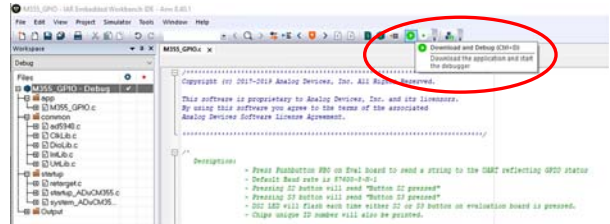

Figure 12. Launching the Debugger
3. To run the firmware on the ADuCM355, ensure that the EVAL-ADuCM355QSPZ is powered on and the J-Link debugger is connected to P3 on the EVAL-ADuCM355QSPZ, then click **Download and Debug** to load the firmware to the ADuCM355 and launch the debugger (see Figure 12). Launching and downloading the debugger can take a few seconds or more.